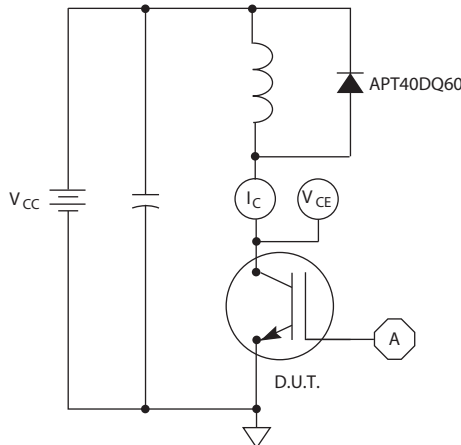

Figure 21, Inductive Switching Test Circuit
- ① Repetitive Rating: Pulse width limited by maximum junction temperature.
- ② For Combi devices,  $I_{ces}$  includes both IGBT and FRED leakages
- ③ See MIL-STD-750 Method 3471.
- ④  $E_{on1}$  is the clamped inductive turn-on energy of the IGBT only, without the effect of a commutating diode reverse recovery current adding to the IGBT turn-on loss. Tested in inductive switching test circuit shown in figure 21, but with a Silicon Carbide diode.
- ⑤  $E_{on2}$  is the clamped inductive turn-on energy that includes a commutating diode reverse recovery current in the IGBT turn-on switching loss. (See Figures 21, 22.)
- ⑥  $E_{off}$  is the clamped inductive turn-off energy measured in accordance with JEDEC standard JESD24-1. (See Figures 21, 23.)
- ⑦ Continuous current limited by package lead temperature.